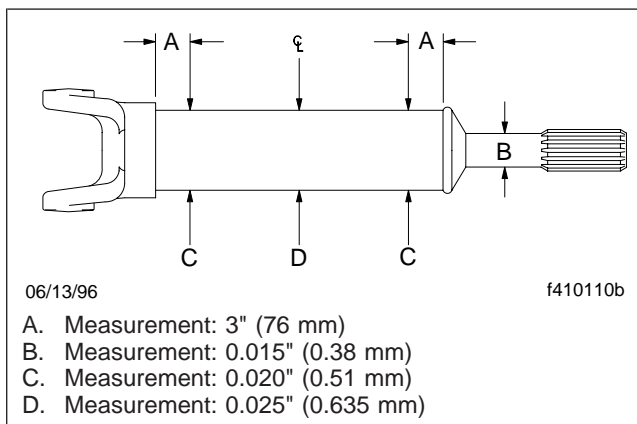

Fig. 3, Driveshaft Runout Specifications
6. Check the driveshaft tubes for dents, bends, twists, or other damage. If any tube appears to be damaged, remove the driveshaft and check the runout on the tube. If the tube is not straight (and cannot be straightened) within 0.015 inch (0.38 mm) on the slip-joint seal surface of the splined shaft, 0.020 inch (0.51 mm) on the tube 3 inches (76 mm) from the front and rear welds, and 0.025 inch (0.635 mm) at the center of the tube, replace the tube. See Fig. 3.